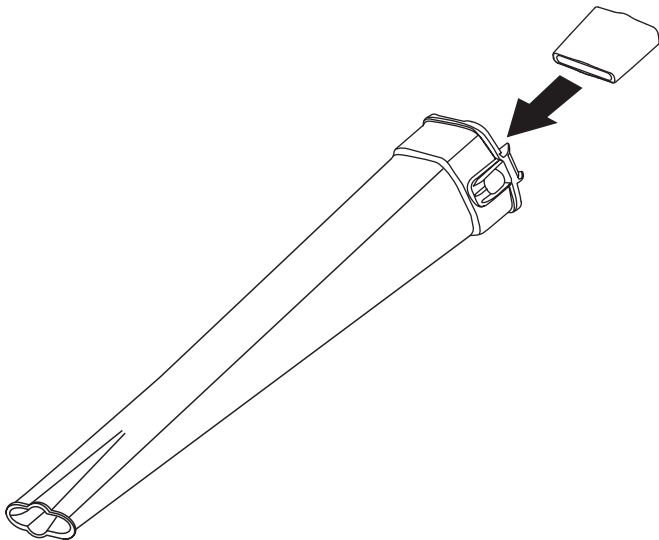

Fig. 2
- When desired, insert the High Pressure Concentrator Nozzle to increase the air velocity for demanding tasks (Fig. 2).